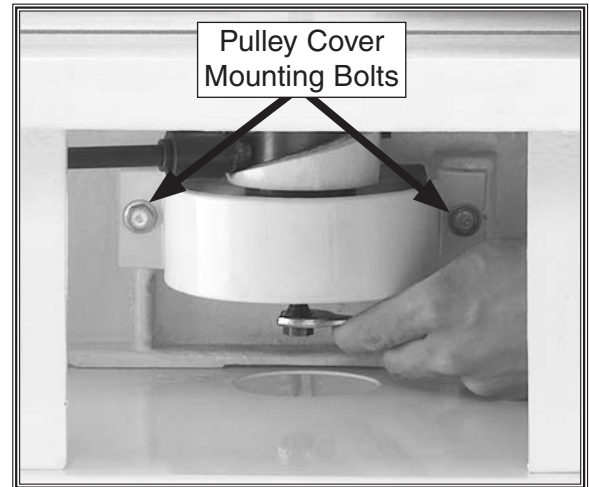

Figure 45. Location of pulley cover mounting bolts.
3. Take off the spindle pulley cover by removing the two mounting bolts shown in **Figure 45**.